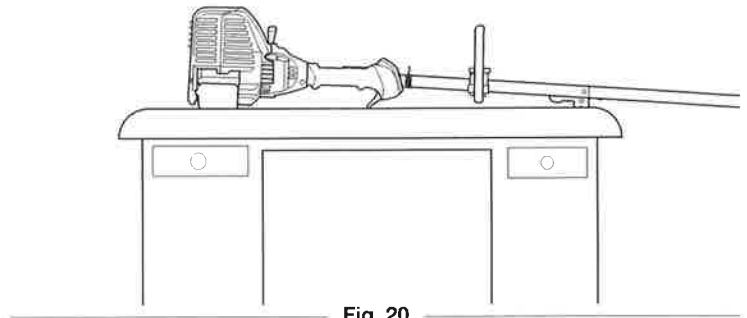

Fig. 20
2. **Set the unit on a flat, level surface**, such as a workbench or table. The cutting head shield should hang over the edge so that the engine is level (Fig. 20).